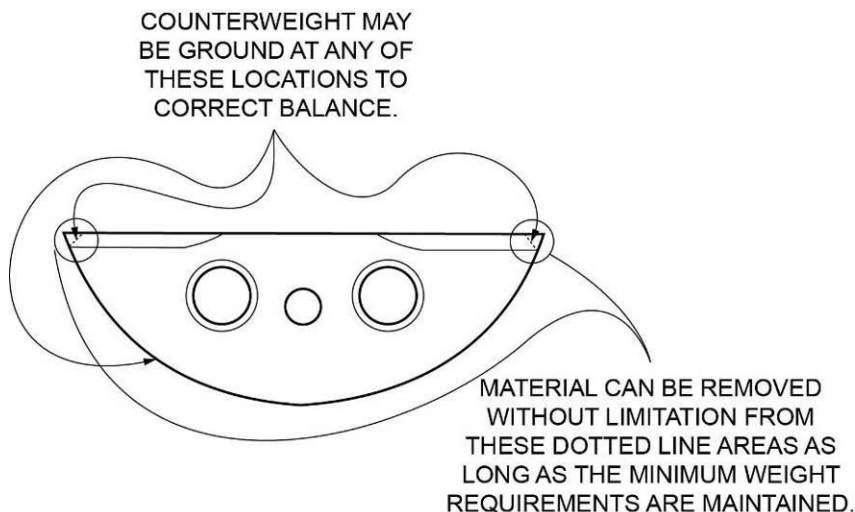

Figure 10
- F. If the counterweight does not become balanced with the addition of the counterweight balancing weight ST-95, carefully grind the heavy end at the locations shown in Figure 10. Do the Counterweight Balancing Procedure again.